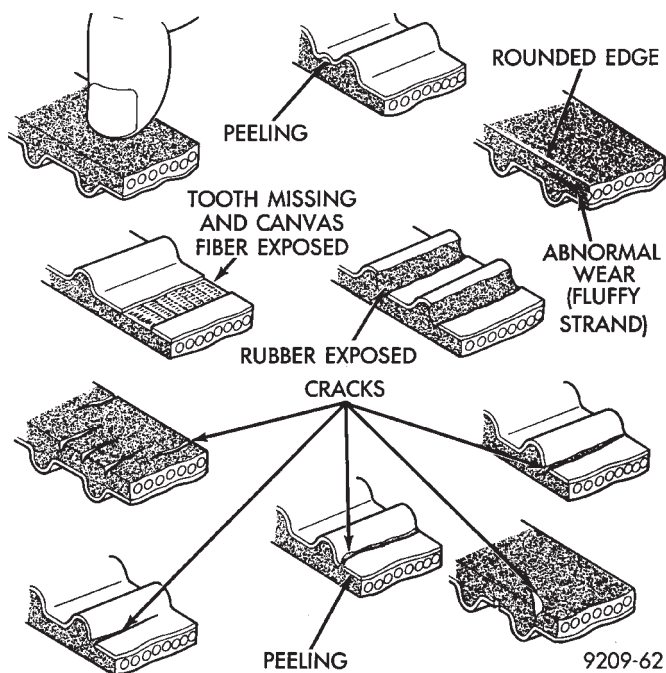

Fig. 3 Timing Belt Inspection
(1) Drain cooling system and remove upper radiator hose for access to timing belt covers. Refer to Cooling Systems Group 7 for procedure.
(2) Remove the accessory drive belts. Refer to Accessory Drive System in Group 7 for service procedure.
(3) Remove timing belt covers. Refer to procedure outline in this section.
(4) Inspect both sides of the timing belt. Replace belt if any of the following conditions exist.
- Abnormal wear of belt sides. The sides are normal if they are sharp as if cut by a knife (Fig. 3).
(5) If none of the above conditions are seen on the belt, the belt cover can be installed.